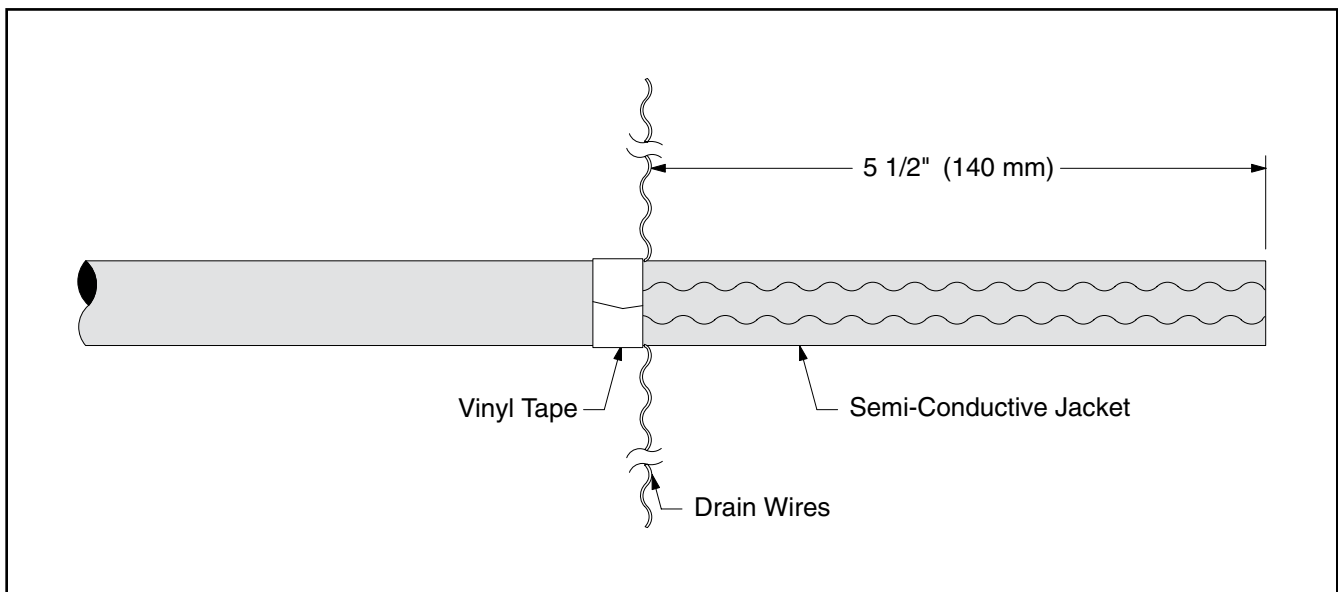

Figure 4
- Wrap a vinyl tape band around cable jacket at a point 5 1/2" (140 mm) from cable end and remove drain wires from semi-con jacket to leading edge of applied vinyl tape band (Figure 4).